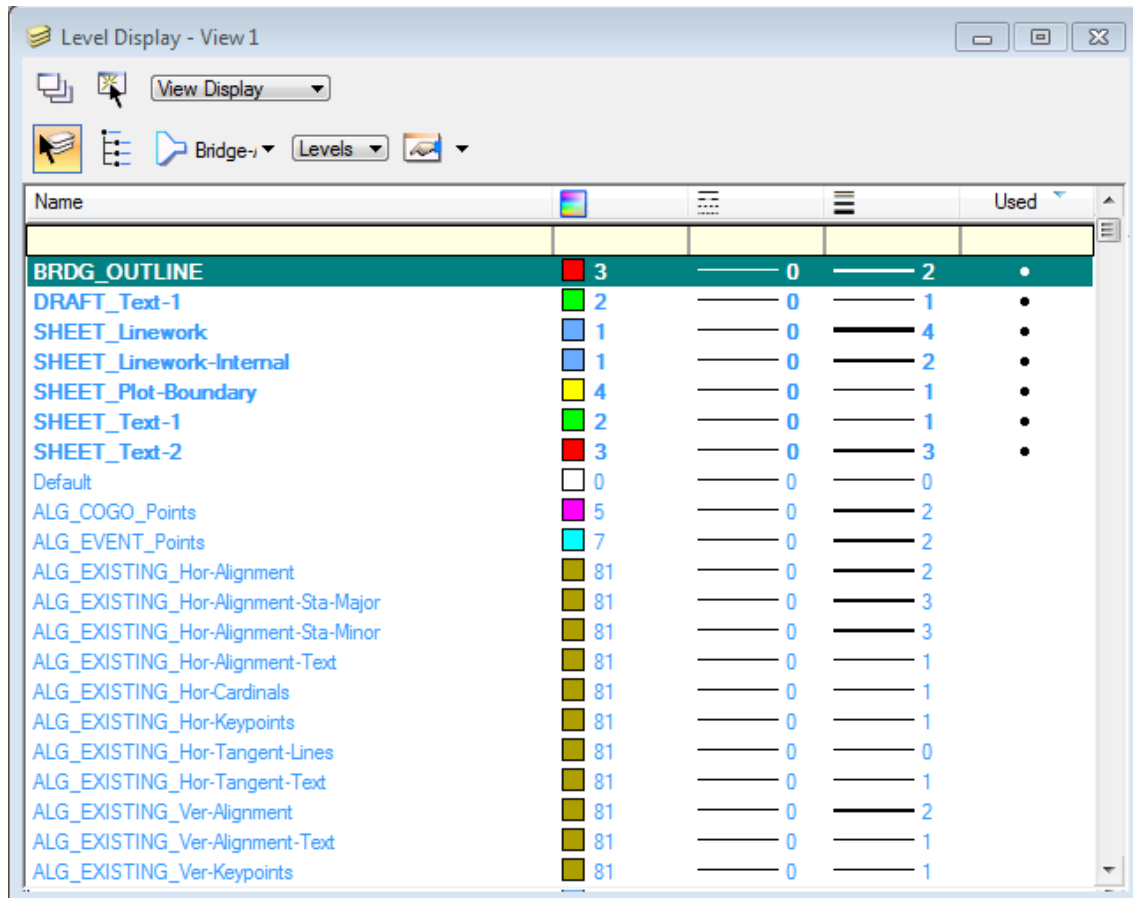

Fig. B.5-3 - Bridge Level Selection from the Level Display
- Double click on a level in the level display window. (Fig. B.5-3)